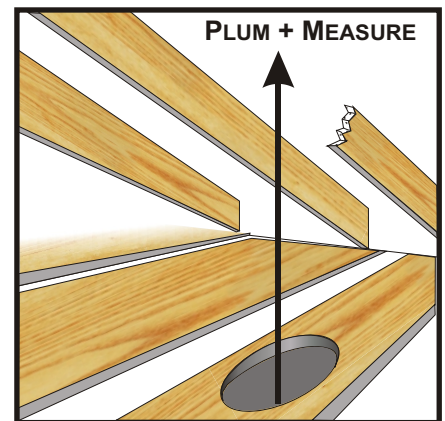

Figure 4
**5.** Now that the ceiling hole is cut, you will need to locate the roof hole center point to be cut. Plumb from the hole in the ceiling either with a level or a plumb line up to the roof boards and mark the spot **(Fig. 4)**. Drill a small hole up through the roof. It may be necessary to push a probe up through the hole to help you locate it